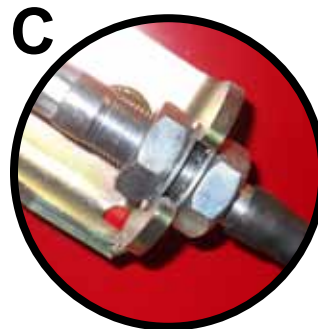

Fig. 012
3. Adjust the lower nut all the way to the end so that one thread is showing at most. Tighten the internal nut to secure the cable to the bracket (C - Fig. 012).